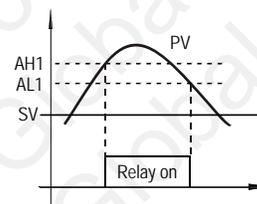
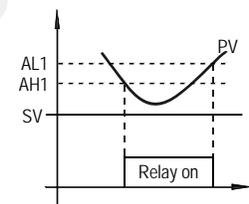

Figure 5. Absolute high alarm
Figure 6. Absolute low alarm
- Press **SET** key once. Use **⊖**, **⊕** and **⊙** keys to enter code 0001. Press **SET** key to confirm, then the display would be SV (SV). Press **SET** key again to display the SV setting. Use **⊖**, **⊕** and **⊙** keys to enter the new SV value and press **SET** to confirm. Press **⊙** key to change the display to END. Then, press **SET** to exit. You can also ignore the steps after confirmation of SV. The controller will returns to normal operation mode automatically if no key is pressed for 1 minute.
**Note 12.** Alarm setting. The J1 relay is controlled by parameters AH1 and AL1. And the J2 relay is controlled by parameter AH2 and AL2. AH1 (or AL2) is the temperature to turn the J1 (or J2) relay on; AL1 (or AL2) is the temperature to turn the J1 (or J2) relay off. When AH1>AL1 (or AH2>AL2), the J1 (or J2) alarm is set for absolute high alarm as shown in Figure 5 below. When AH1 <AL1 (or AH2<AL2), the J1 (or J2) alarm is set for absolute low alarm as shown in Figure 6 below. When AH1=AL1 (or AH2=AL2), the J1 (or J2) alarm is deactivated.